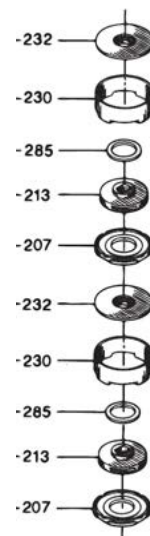

Fig. 10 Wear parts MP 1 pump
For the replacement of wear parts including impellers, see fig. 10, a service kit (art. no.: 12274301) is available. Replace the wear parts including impellers as shown in section 10. Dismantling and assembly.
In addition, a service kit (product number 12274311) is available. This kit includes wear parts for two pumps, i.e. 4 washers, pos. 285, and 4 seals, pos. 207. See fig. 10.